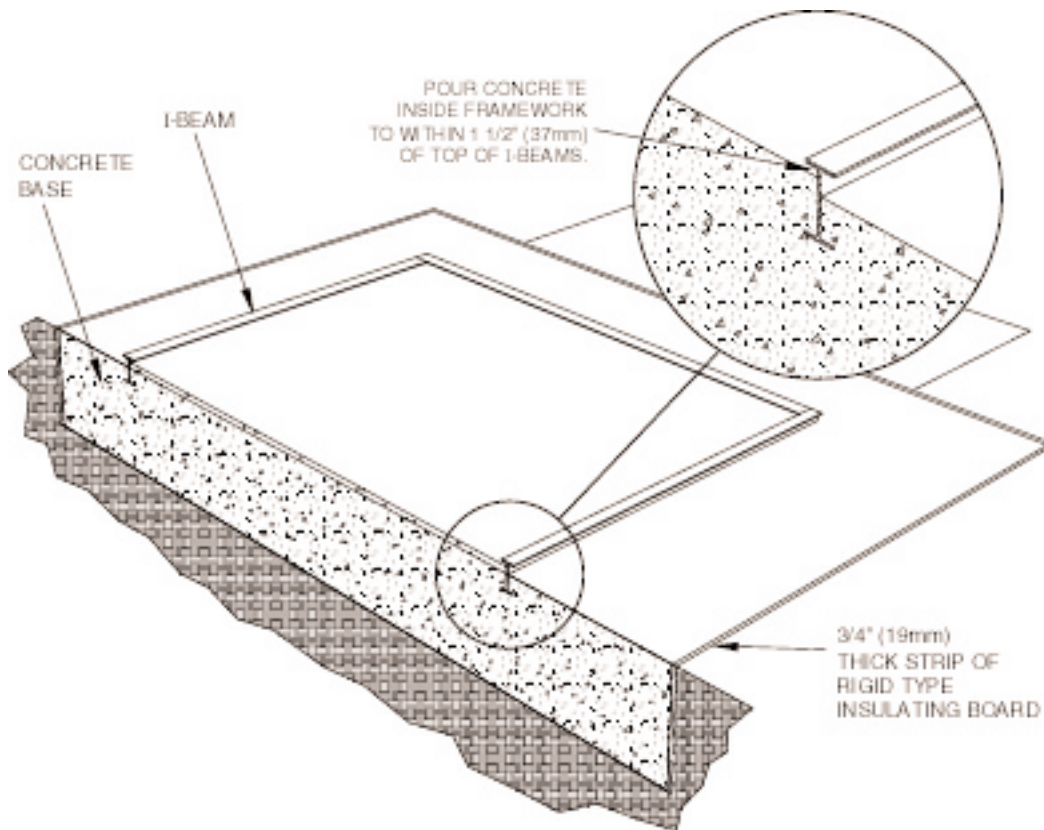

Figure 1.3 3-D VIEW.
12. Once the frame is properly located and leveled, pour concrete inside within 1-1/2" [38mm] of top of I-beam to allow for machine grouting. Do not pour the concrete up to the top of the beams. This also includes the area of concrete between the I-beams. Refer to figure 1.3.
3. Make sure a 3/4" [19mm] strip of insulation has been placed between the machine foundation and the plant floor to isolate the vibration to the machine foundation (figure 1.3).